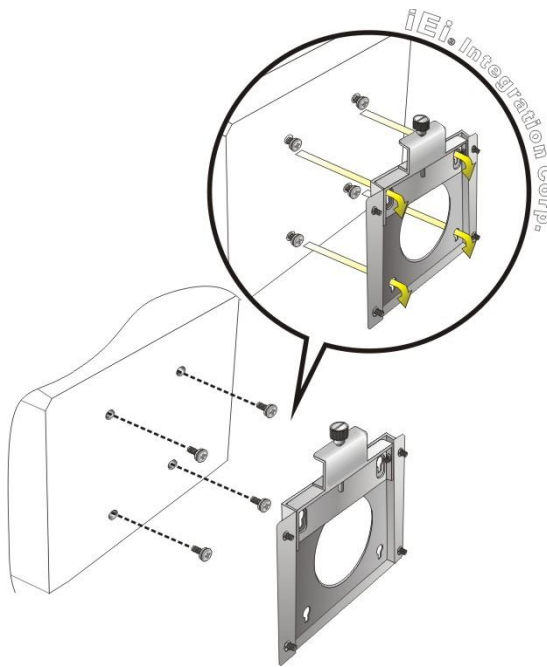

Figure 3-8: Chassis Support Screws
Step 6: Insert the four monitor mounting screws provided in the wall mount kit into the four screw holes on the rear panel of the panel PC and tighten until the screw shank is secured against the rear panel (**Figure 3-8**).
Step 8: Carefully insert the screws through the holes and gently pull the monitor downwards until the monitor rests securely in the slotted holes (**Figure 3-8**). Ensure that all four of the mounting screws fit snugly into their respective slotted holes. Always keep the AFL4-W10/W12/12/W13-EHL in landscape orientation when mounting on the wall.